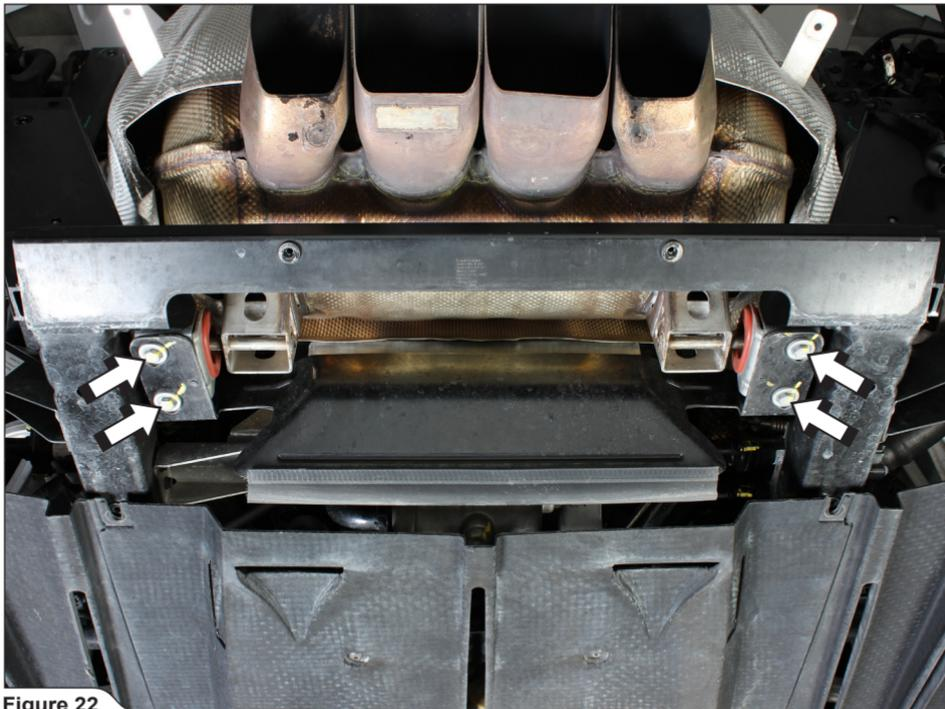

Figure 22
14. Unscrew the marked muffler's lower brackets bolts and carefully remove the muffler off the vehicle (**Figure 22**).